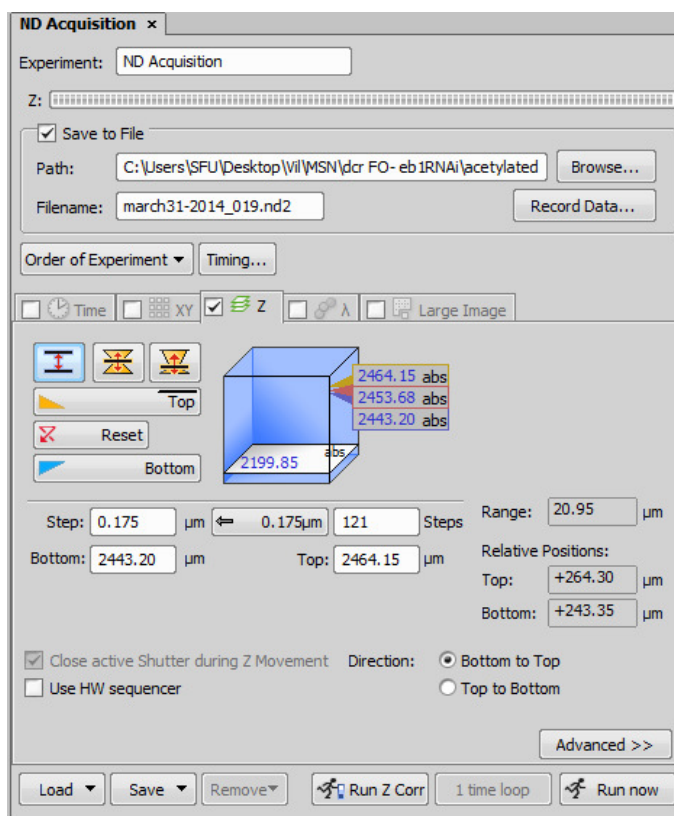

Figure 26. The ND Acquisition dialogue box for running different experiments.
5.8.7 ND Experiments (Figure 26)